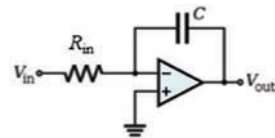

Figure 9.47 Ch 9: No. 27, self-test
27. Determine the rate of change of the output voltage and the waveform for the integrator shown in Figure 9.47, if R_{in} is $10\text{ k}\Omega$, C is $0.04\text{ }\mu\text{F}$, and V_{in} is a square wave input signal rating from -8 V to $+8\text{ V}$ at $600\text{ }\mu\text{s}$ (the wave width). Assume that the voltage across the capacitor is initially zero.